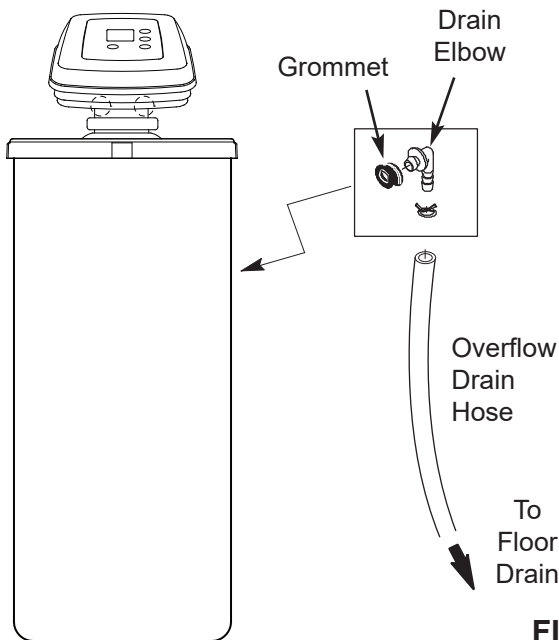

FIG. 14
- a. Insert the rubber grommet into the 3/4" diameter hole in the salt storage tank sidewall (See Figure 14).